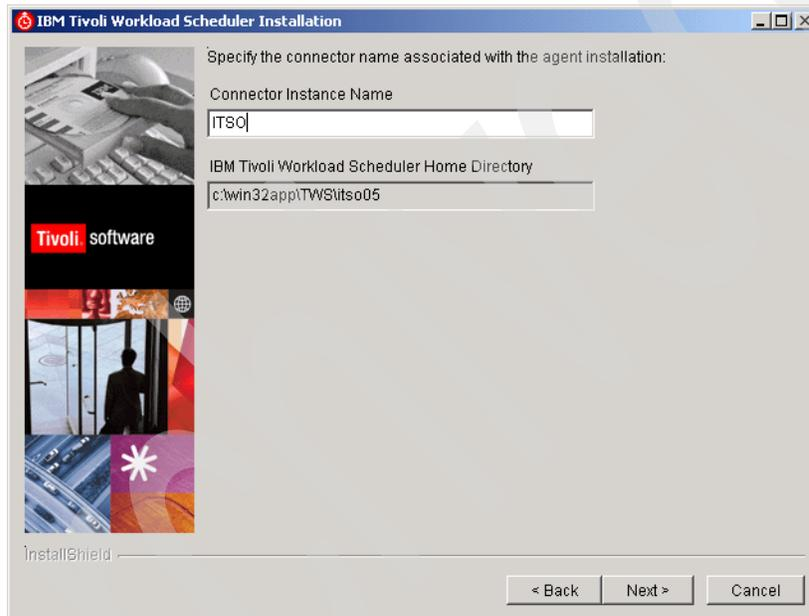

Figure 15-28 IBM Tivoli Workload Scheduler Connector
9. Designate the connector name to be associated with the agent installation (Figure 15-28 on page 439). This name will be displayed in the Job Scheduling tree of the Job Scheduling Console (JSC). To avoid any confusion, use a name that includes the name of the fault-tolerant agent.